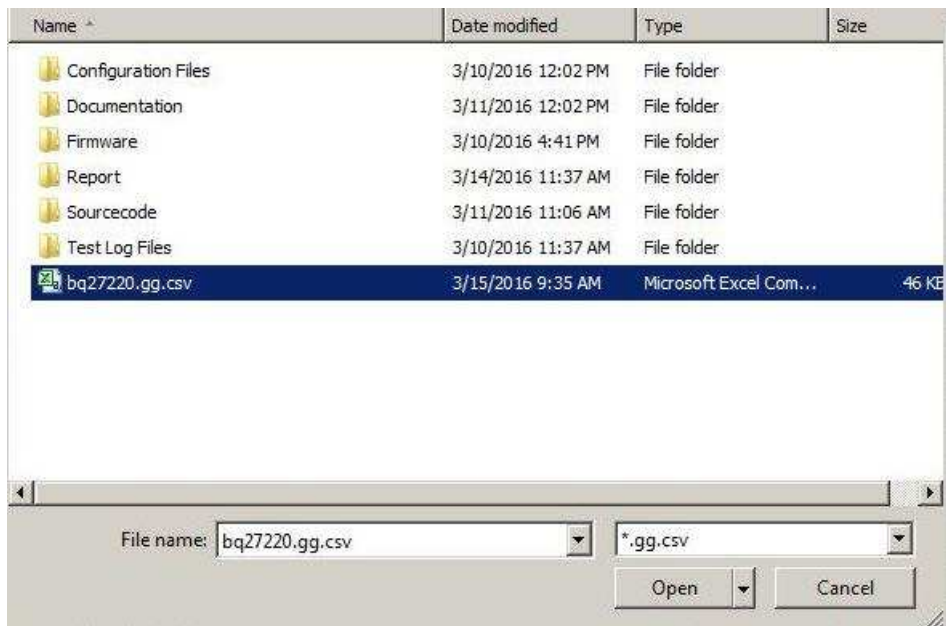

Figure 6. Load .GG File
1. Browse to a desired template or sample *.GG parameter file. (example: bq27220.gg.csv in Figure 6.)